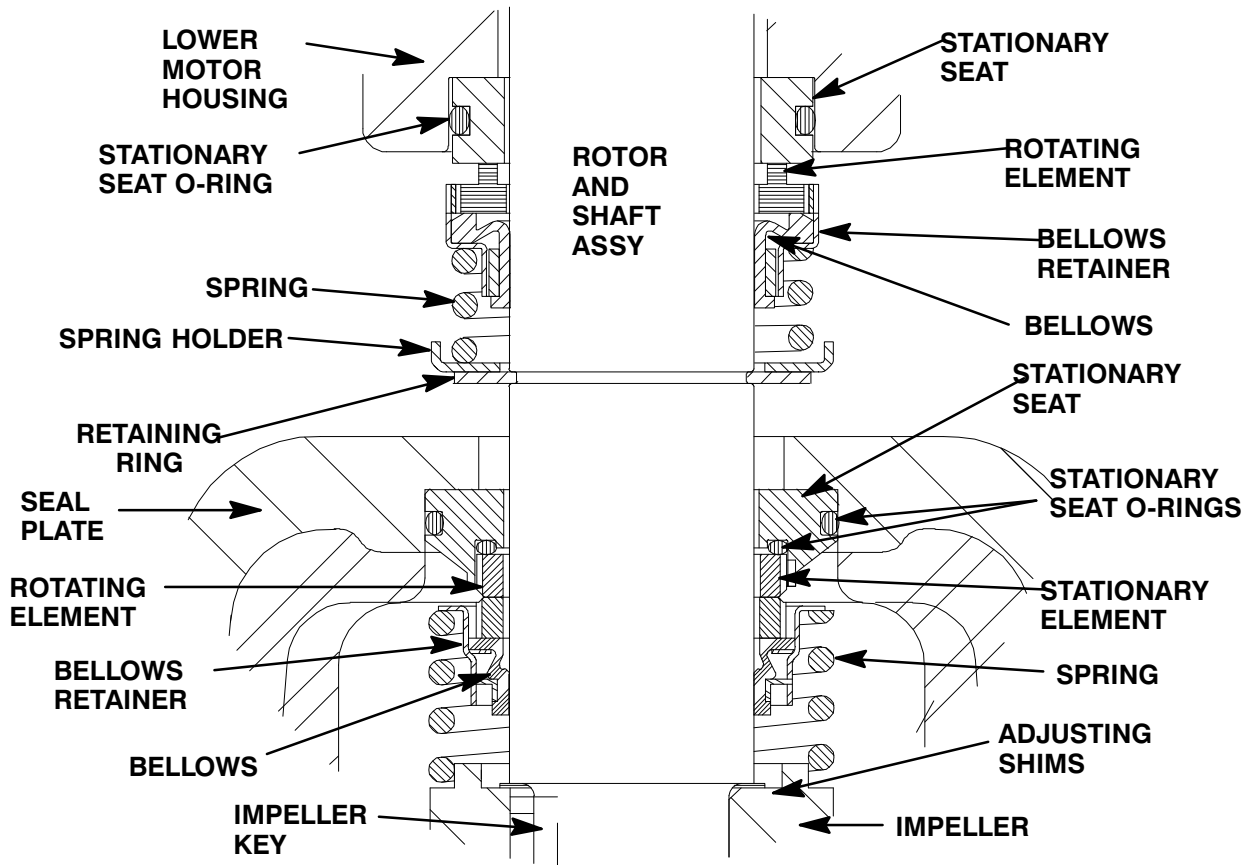

Figure 3. Upper And Lower Seal Assemblies
Install the shaft seals as illustrated in Figure 3.
Slide the seal spring over the shaft and bellows retainer, and install the spring holder (17). Install the seal snap ring (16). See Figure 3 for the proper order of seal assembly.